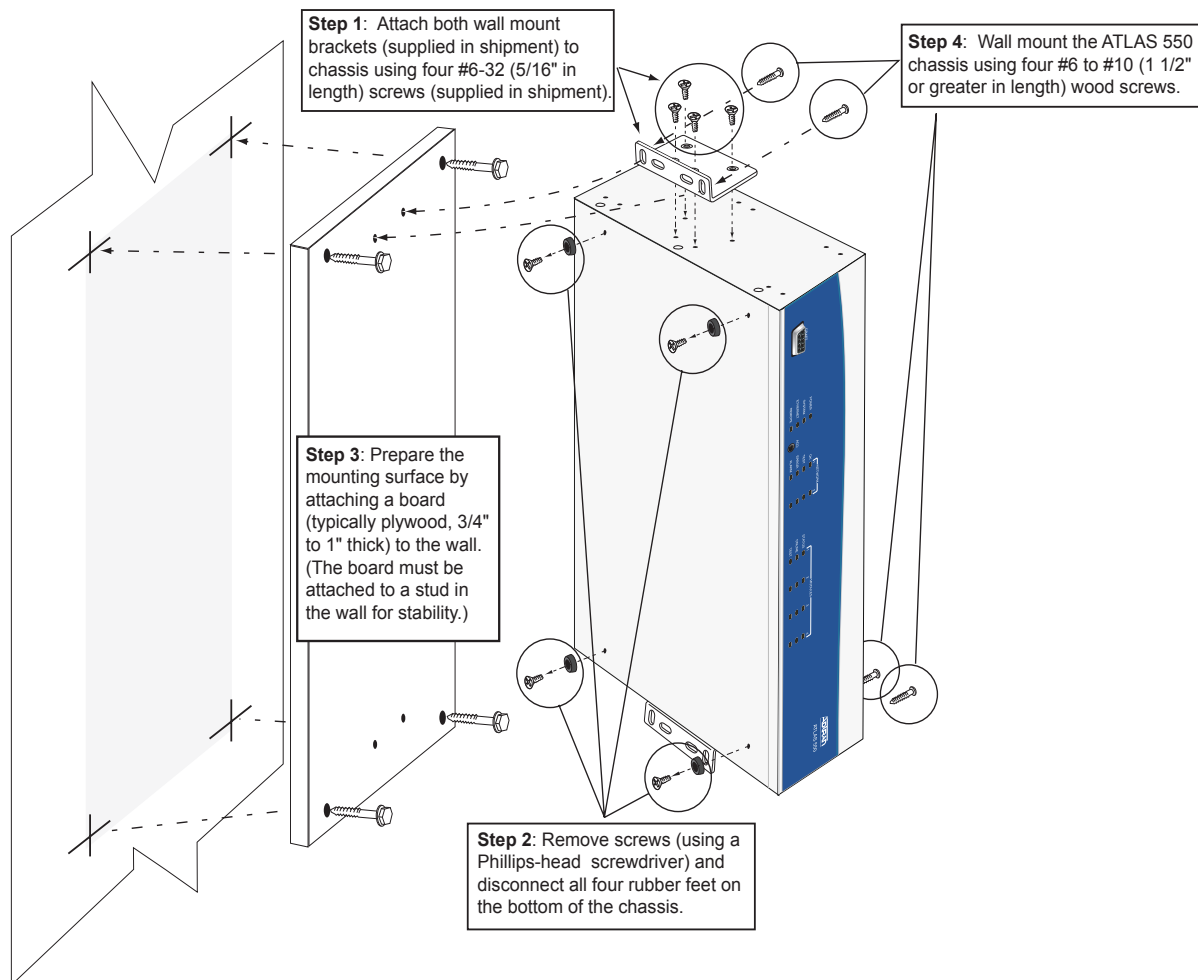

Figure 1. Wallmounting the ATLAS 550
3.	Decide on a location for the ATLAS 550. Keep in mind that the unit needs to be mounted at or below eye-level so that the LEDs are viewable. IMPORTANT! Mount the chassis with LEDs facing to the side as shown in Figure 1 on page 55 (not facing up or down).